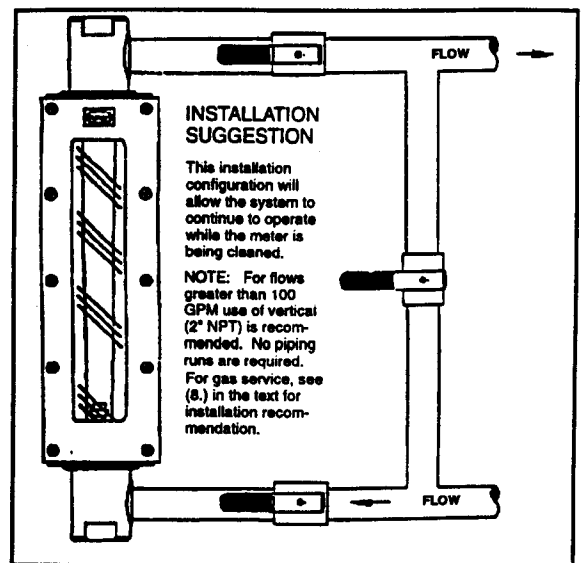

Figure 1. Installation Diagram
- b. Flowmeters with stainless fittings have dual ports (vertical and horizontal). It is recommended that horizontal fittings be used whenever practical. This will allow float stops and float (or float and guide assembly) to be easily removed from the tube for in-place cleaning (see Figure 1).